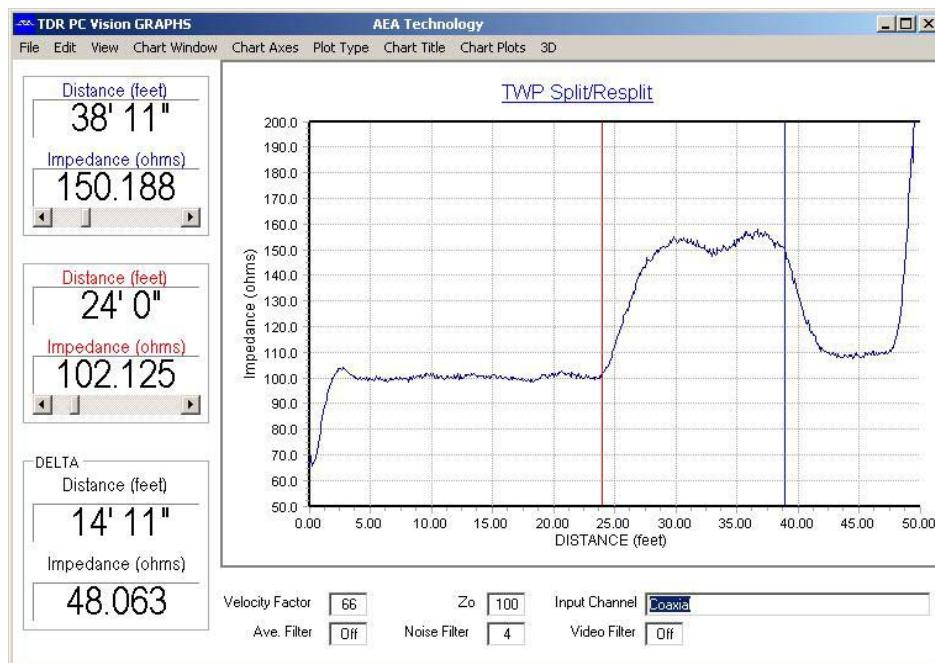

Figure 3
On the 20/20 TDR, a split will show a sudden increase in the impedance (Z) of the pair and then a return to nominal impedance at the resplit. Figure 3 shows a split and resplit uploaded from the 20/20 TDR into the TDR PC Vision software. The initial split pair is marked by the red cursor at 24 feet and the resplit is marked by the blue cursor at 38 feet 11 inches.